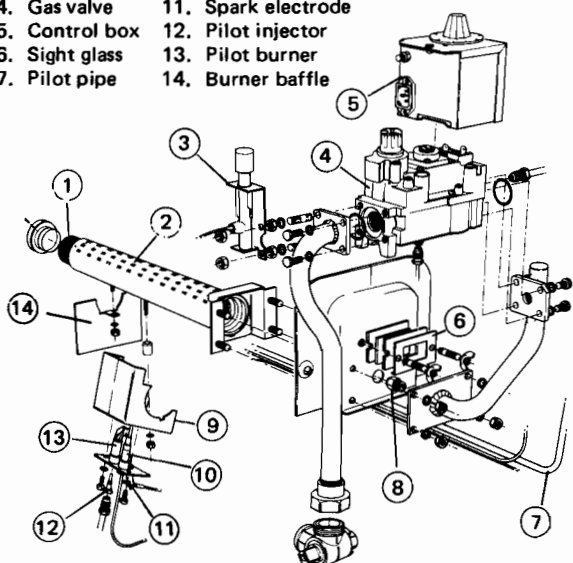

Fig. 19
When replacing a defective CF 50 main burner, it is most important that the baffle (14) (refer Fig.19) is fitted to the new burner.